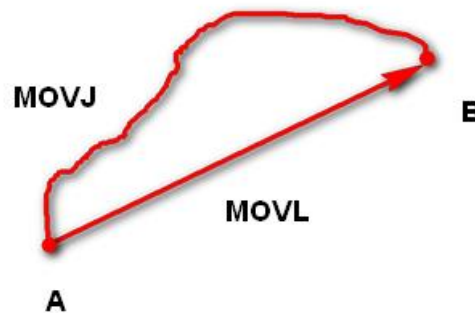

Figure 3.6 MOVL/MOVJ mode
- **MOVJ**: Joint movement. From point A to point B, each joint will run from initial angle to its target angle, regardless of the trajectory, as shown in Figure 3.6.
- **MOVL**: Rectilinear movement. The joints will perform a straight line trajectory from point A to point B, as shown in Figure 3.6.